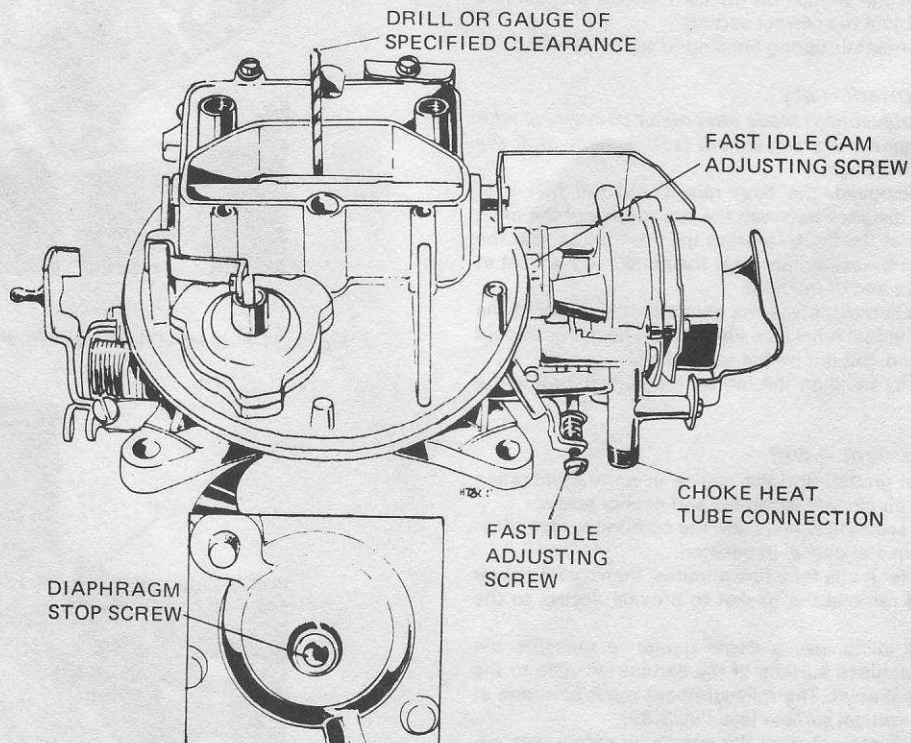

Fig. 3.29 Checking the choke plate pulldown clearance (2100 carburetor) (Sec. 15)
- 17 Start the engine, then check for the specified clearance by inserting a drill, of the appropriate diameter, between the lower edge of the choke plate and the air horn wall, (see Fig. 3.29).